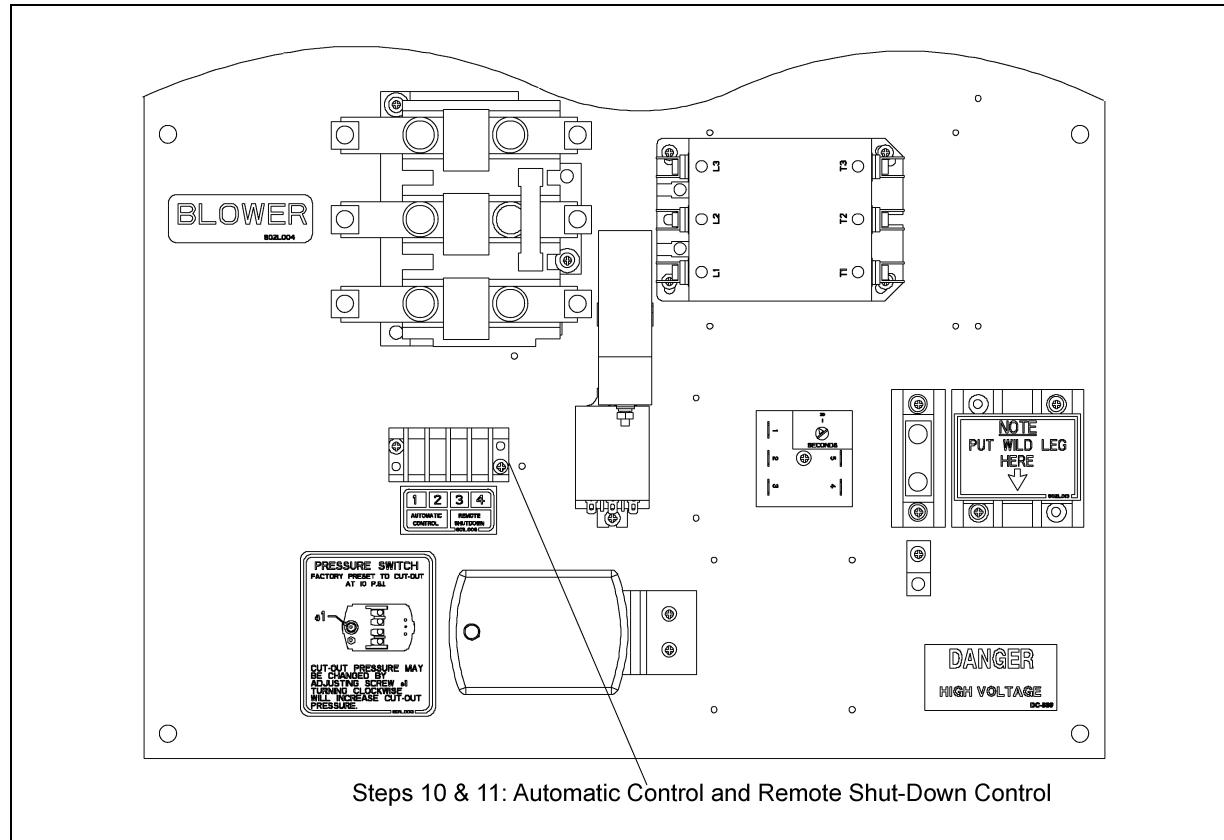

Figure 4S
**8. 5 Amp Fuse:** A five (5) amp fuse protects the electrical components in the control box.
**10. Automatic Control Terminals:** When the air system is ready to run (i.e., the control ready light is on), the system can then be started and run by completing the circuit between terminals one (1) and two (2). The blower, airlock or auxiliary equipment will not run in the automatic mode unless terminals one (1) and two (2) are connected. For example, a closing set of contacts in a dryer control box would complete the circuit between terminals one (1) and two (2) and automatically start the air system. (See Figure 4S)
No voltage should be supplied to terminals one (1) and two (2). See the diagram on Pages 26 & Pages 27 and See Figure 4S.
**11. Remote Shut-Down control:** A remote piece of equipment can be caused to shutdown with the air system by putting terminals three (3) and four (4) in series with the control circuit of the remote equipment. This circuit has a maximum current rating of 10 amps. The circuit between terminals three (3) and four (4) is closed whenever the control circuit ready light is on, regardless of the position of the control switches. (“AUTO”, “OFF” or “ON”) See the Diagram on Pages 26, Pages 27 and Pages 32.